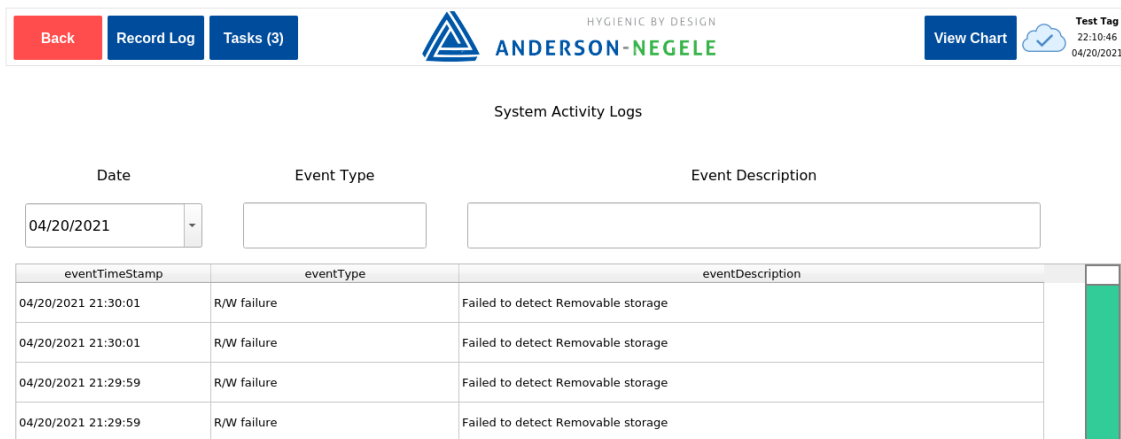

Figure 45: Sample View of System Activity Log
8. Select *System Activity Logs* to view a log similar to Figure 45 below